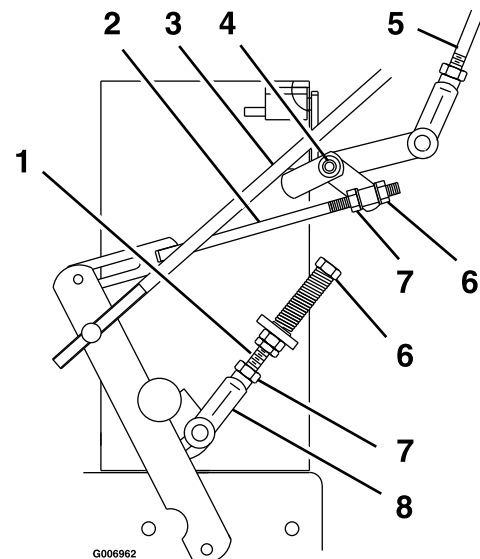

Figure 16
4. Loosen the nut against the neutral control linkage yoke as shown in Figure 16.
2. Loosen the front nut on left hydro control linkage as shown in Figure 16. Turn the rear control linkage adjusting nut counterclockwise until wheel rotates forward. Turn the rear nut of left control linkage clockwise 1/4 of a turn at a time, stopping to move the speed control forward and back to neutral, until left wheel stops rotating forward.